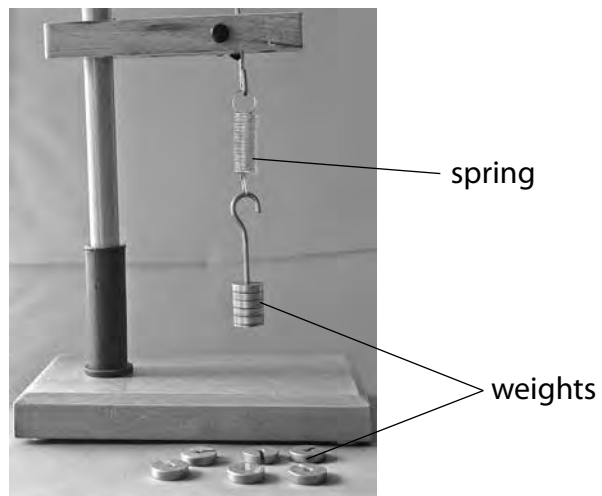

Figure 22
- (b) The student investigates the stretching of a spring with the equipment shown in Figure 22.